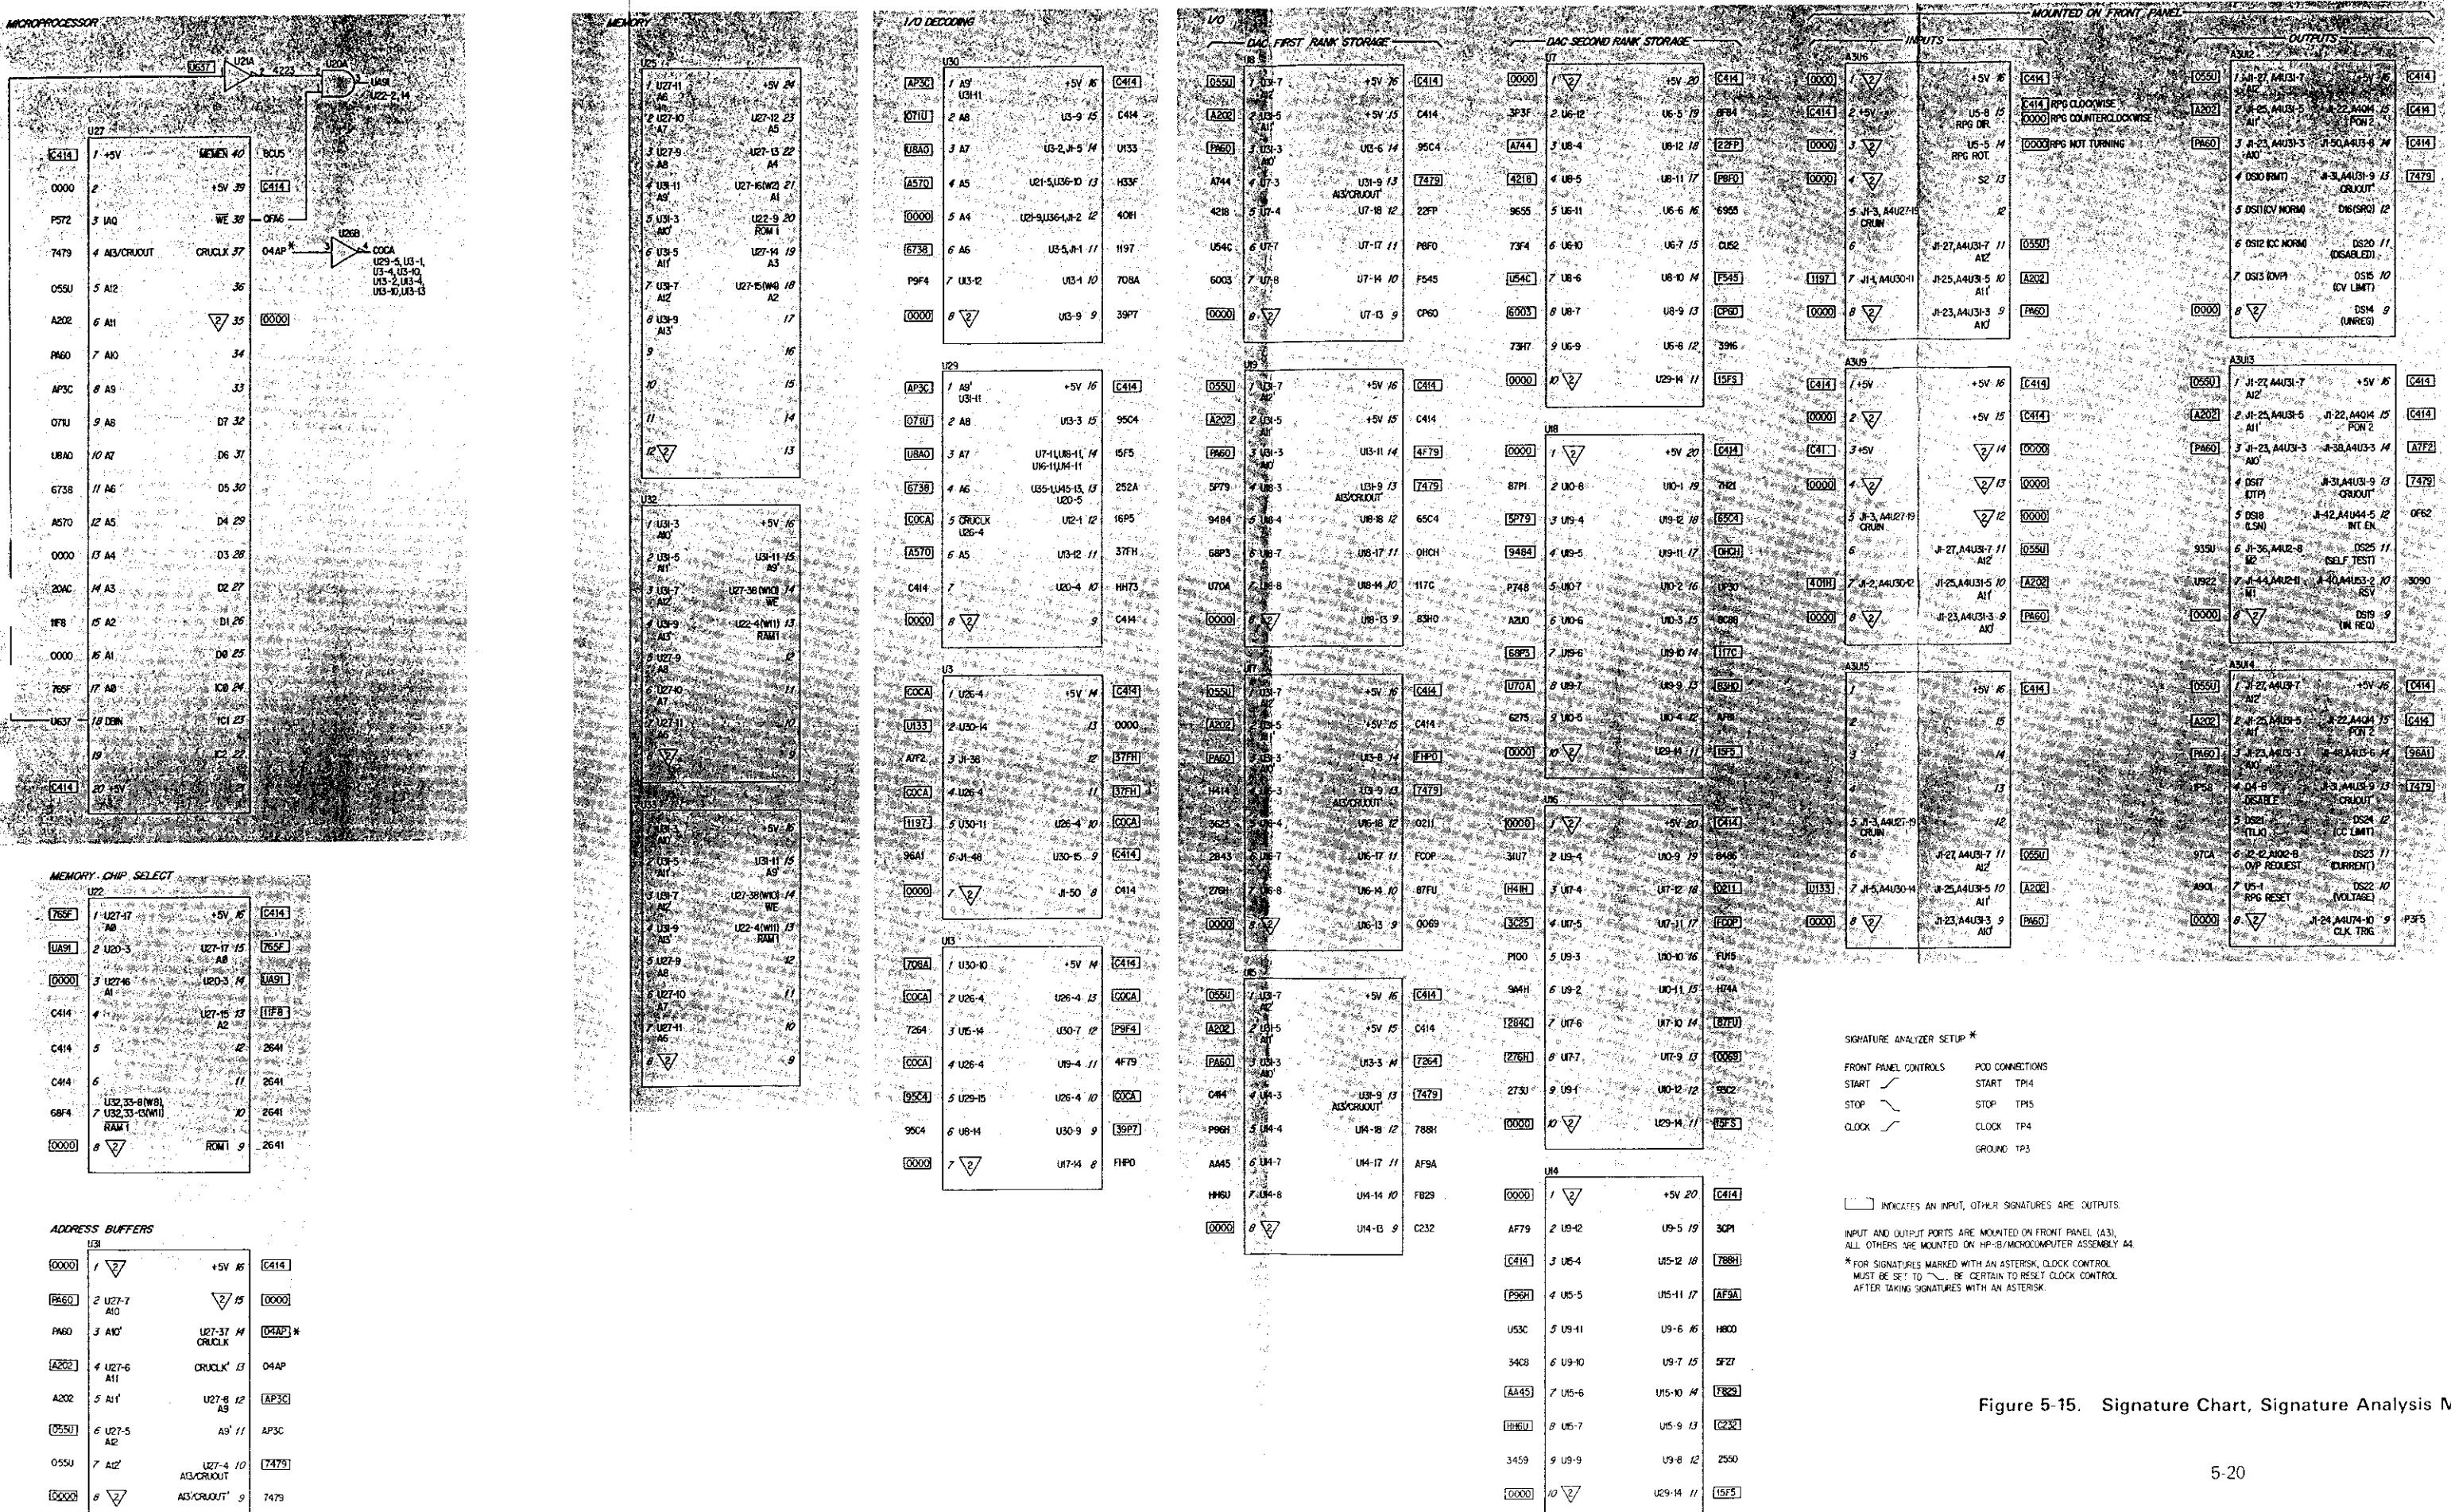

Figure 5-15. Signature Chart, Signature Analysis Mode
**5-96 Signature Analysis Procedure.** Figure 5-15 is used for signature analysis when the microprocessor has passed turn-on self test. Most faults for which this mode is appropriate involve I/O communication.
5-97 Ensure that the free-run jumper pack is in its normal position, and switch the 6034A to signature analysis test mode (CURRENT LED flashing). Set the signature analyzer controls as shown in Figure 5-15. If an input or output port is being checked, start at that port and work back toward the microprocessor. Remember that the numbers next to each pin number give the location to which that pin is connected.
- a. Using the schematic and labels on Figure 5-15, locate the output port that resets OVP; A3U14, pin 6, on the front-panel assembly.